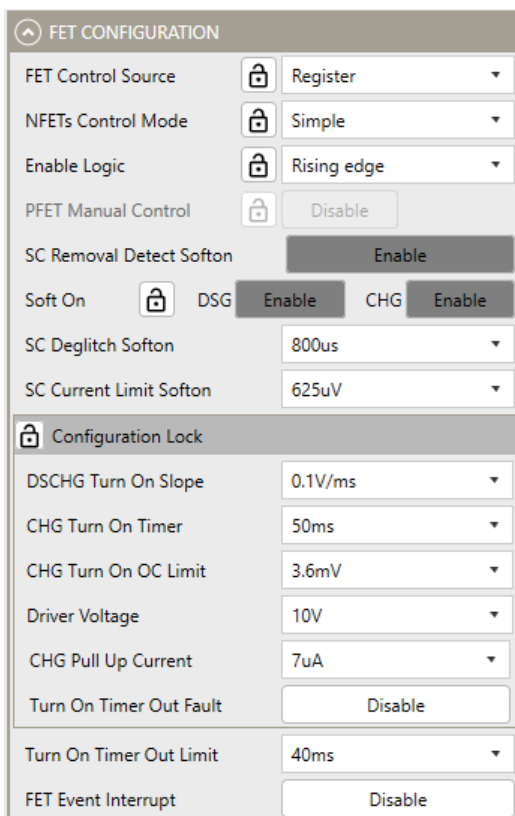

Figure 8: FET Configuration
- Figure 8 shows the FET Configuration settings in the GUI.